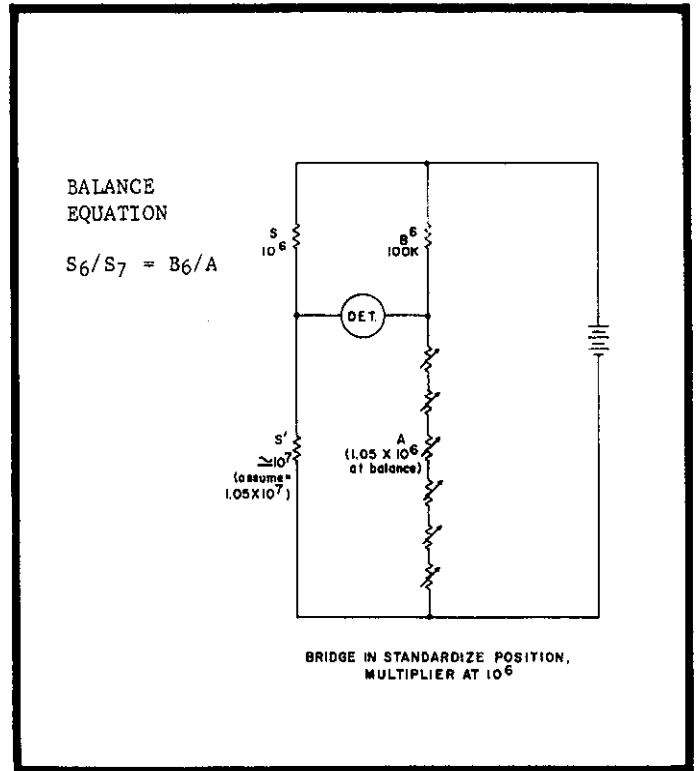

FIGURE 9.
1. A simplified bridge circuit with FUNCTION switch in STANDARDIZE is shown in Figure 9.